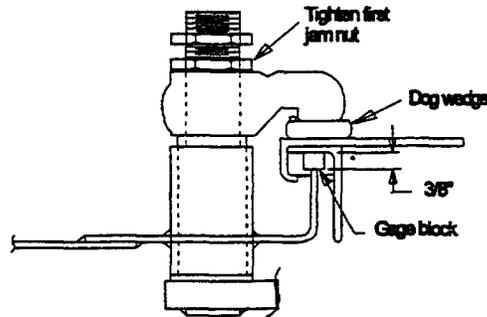

Figure 2-16. Locking Arm/Brace Link
- e. Tighten the first jamnut or self-locking nut down until the knife-edge hits hard against the 3/8-inch thick gauge block. See figure 2-16.